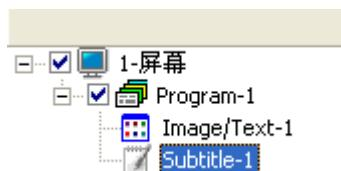

图 3-17
- ◆ Subtitle :click subtitle button, add new subtitle in the current screen, as shown in figure 3-17, set the subtitle attributes as your require. More details about subtitle attributes setting ,please check in “4.3.2 subtitle attributes”